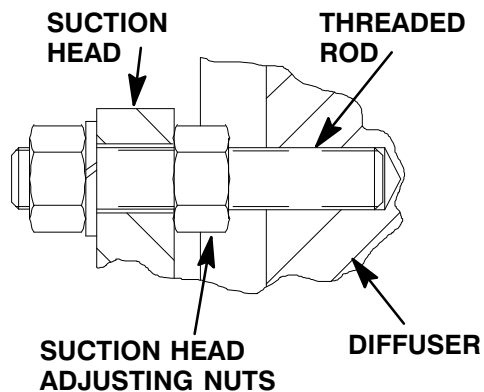

Figure C-4. Suction Head Adjustment Detail
See Figure C-4 and install the suction head adjusting nuts (3) on the threaded rods (2). Position the suction head over the threaded rods and press it into the diffuser until fully seated against the adjusting nuts.